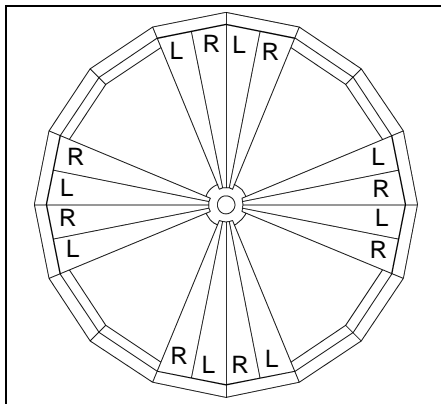
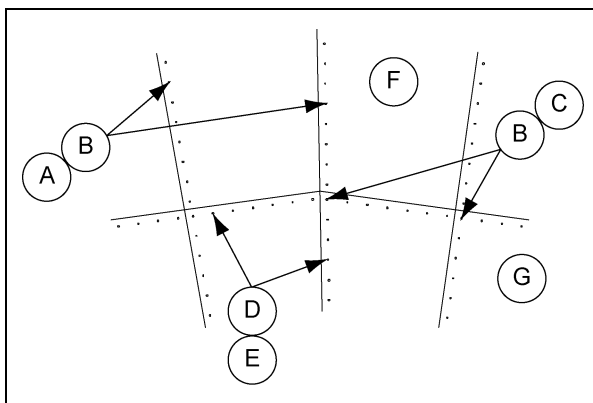
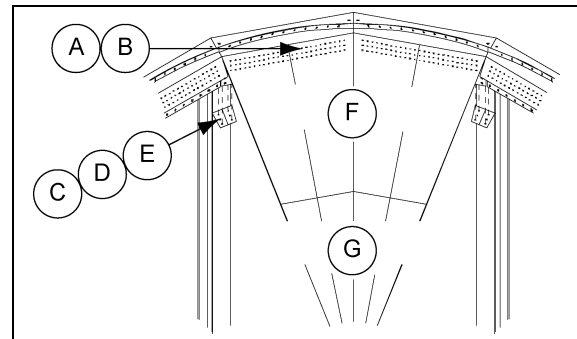
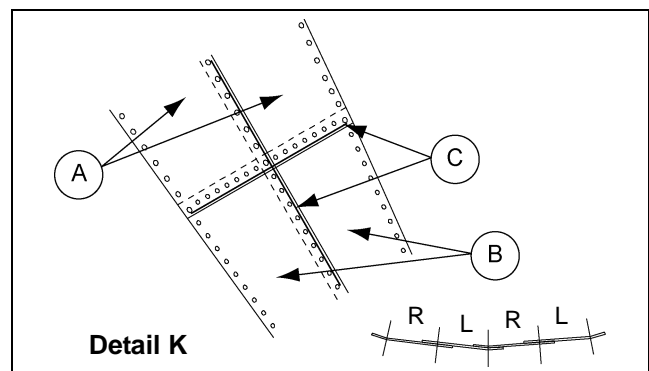

Figure 6D Hopper Panel and Discharge Collar Assembly
Figure 6E Detail J - Hopper Panel Bolt Usage
Figure 6F Hopper Panel Detail
Figure 6G Caulking and Lap (Viewed from Inside of Bin)
Begin assembling the two (2) piece hopper bottom by attaching a right and left pair or pairs of the top hopper panels to the compression angle ring (3/8" x 1" bin bolts (S-7487) and 3/8" nut (S-7489)), along with the back side splice plates which use (3/8" x 1-1/2" bin bolts (S-7488) and 3/8" nut (S-7489)). Refer to Figure 6F. All top panel seams use 5/8" x 1-1/2" hardware (S-4109) and 5/8" nut (S-4110). Once the top panels are positioned the bottom hopper panels may be attached to the top panels and discharge collar with 1/2" x 1" hardware (S-4492) and 1/2" nut (S-3729), at four (4) opposing points as shown in Figure 6D. A 5/8" x 2" bolt (S-4329) and 5/8" nut (S-4110) is used on all corners of the spliced hopper panels. Refer to Figure 6E for bolt usage on hopper panels. Caulking is required on all vertical and horizontal seams of the hopper bottom, (refer to Figure 6G). Complete this assembly by laying in alternate right and left panels moving around in one direction and lapping all sheets the same way. Do not tighten bolts until all hopper panels are attached to each other, the compression ring, splice plates and discharge collar.